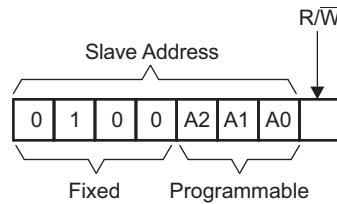
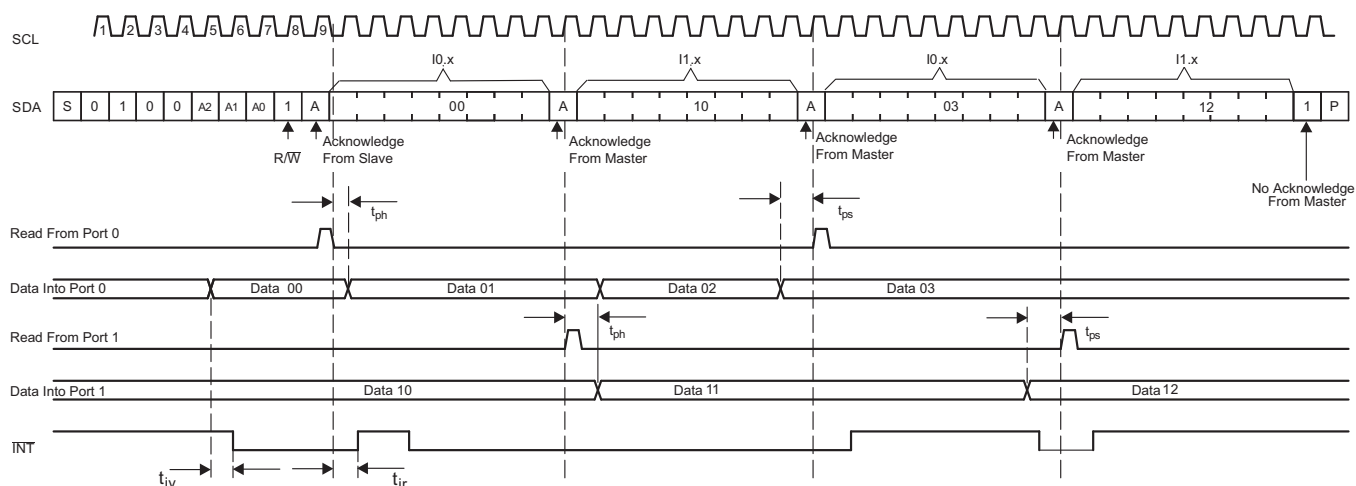

Figure 21. PCA9555 Address
**Figure 25. Read From Register**
Figure 21 shows the address byte of the PCA9555.
Data is transmitted to the PCA9555 by sending the device address and setting the least-significant bit to a logic 0 (see Figure 21 for device address). The command byte is sent after the address and determines which register receives the data that follows the command byte.
The bus master first must send the PCA9555 address with the least-significant bit set to a logic 0 (see Figure 21 for device address). The command byte is sent after the address and determines which register is accessed. After a restart, the device address is sent again, but this time, the least-significant bit is set to a logic 1. Data from the register defined by the command byte then is sent by the PCA9555 (see Figure 25 through Figure 27).
- This figure eliminates the command byte transfer, a restart, and slave address call between the initial slave address call and actual data transfer from the P port (see Figure 25 for these details).
- B. This figure eliminates the command byte transfer, a restart, and slave address call between the initial slave address call and actual data transfer from the P port (see Figure 25 for these details).